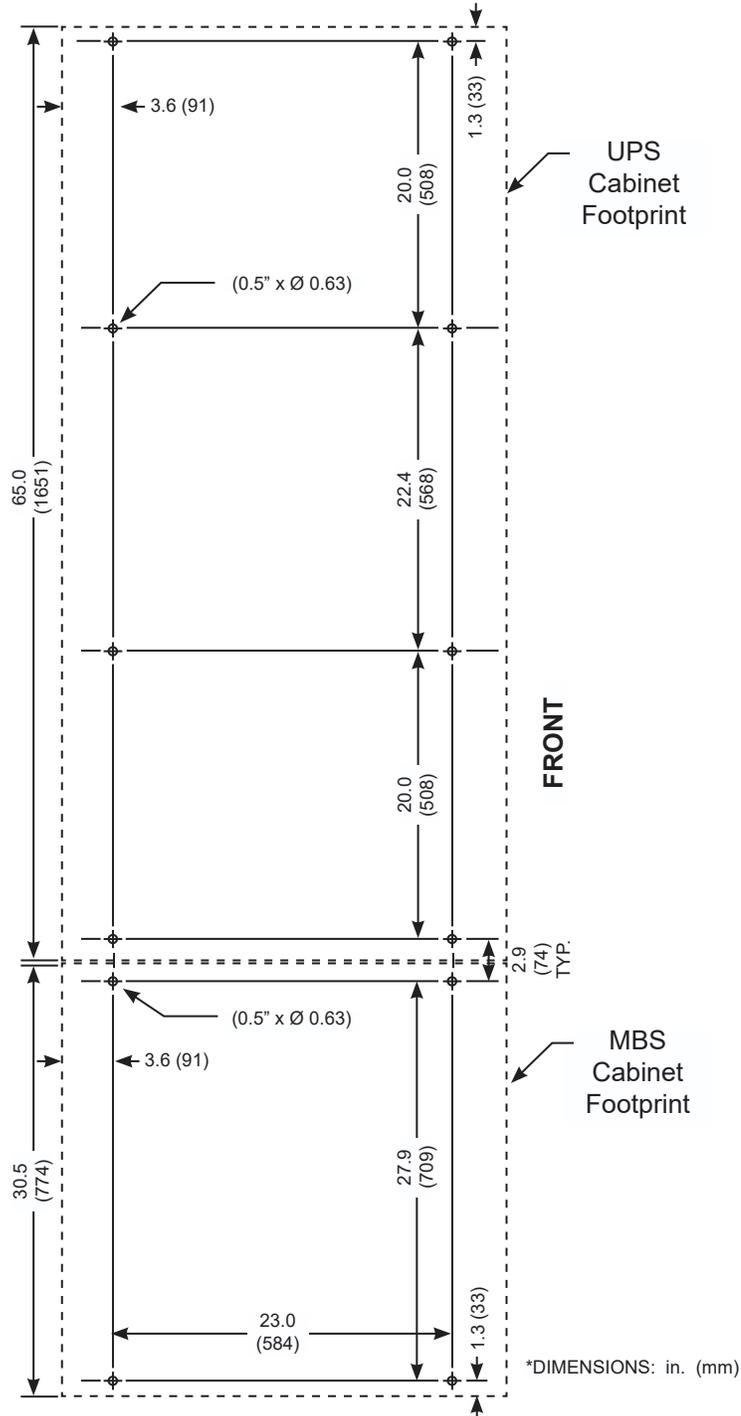
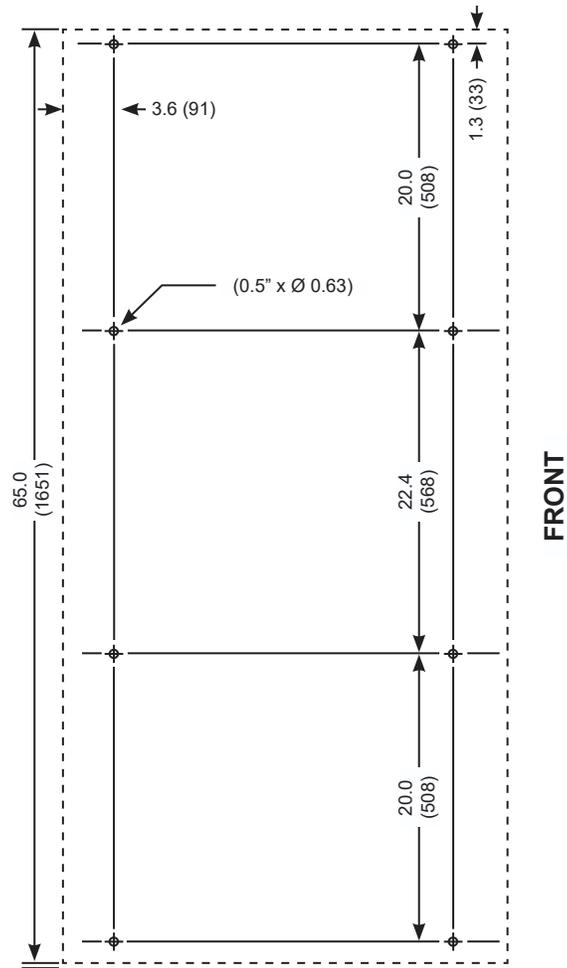
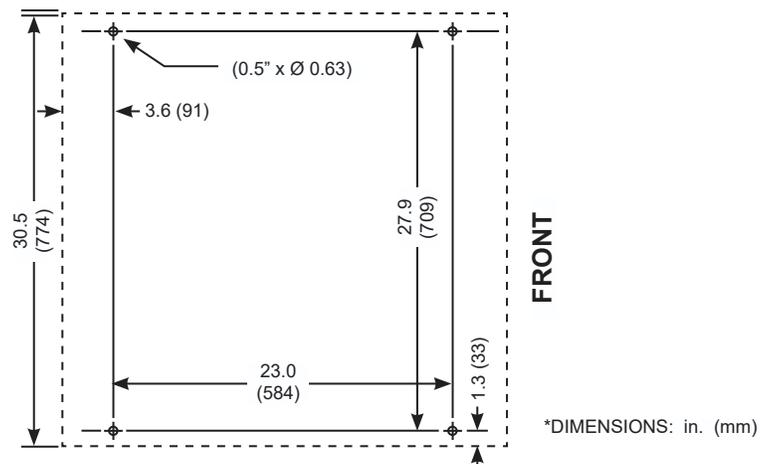

FIGURE 8.1: 50/40KVA ANCHORAGE AND FOOTPRINT
FIGURE 8.2: 30KVA ANCHORAGE AND FOOTPRINT
FIGURE 8.3: 15KVA ANCHORAGE AND FOOTPRINT
Use 5/8" (16 mm) diameter anchor bolts. There are two (2) x 0.63 in. (16 mm) diameter holes provided in each of the four (4) the Electronics Cabinet base skirts, and two (2) x 0.63 in. (16 mm) diameter holes in in each of the two (2) the Landing Cabinet base skirts. See **Figure 8.1**, **Figure 8.2**, and **Figure 8.3** for the hole locations and dimensions.